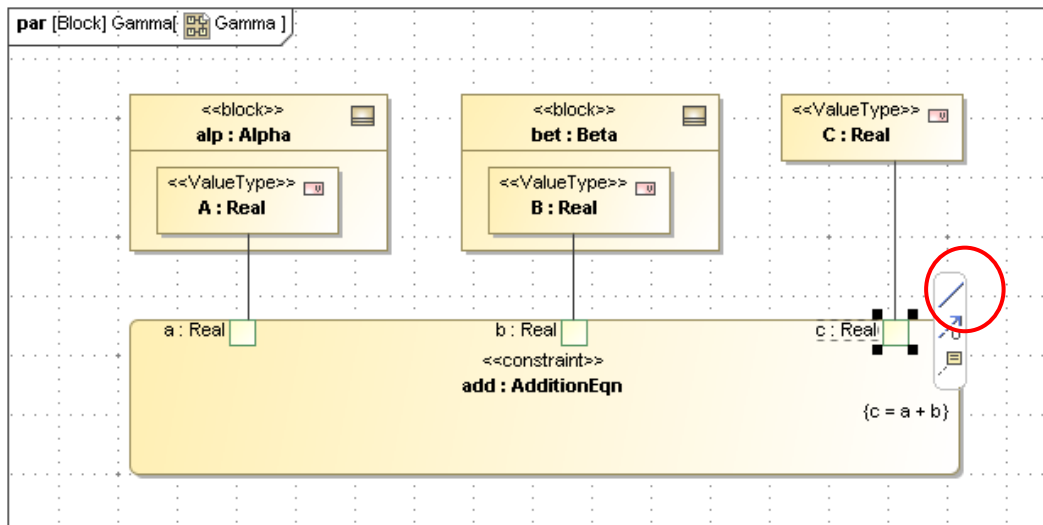
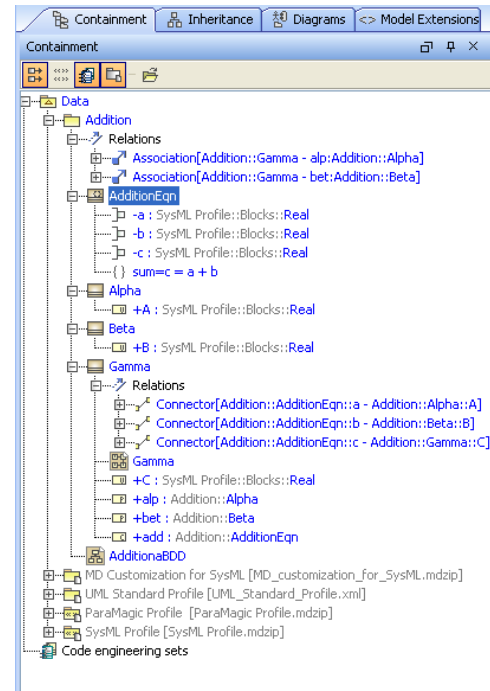

Figure 2.14 SysML Parametrics Diagram with connectors, connector icon highlighted
Figure 2.15 Containment Tree
- ii. From the floating toolbar that appears, choose the Connector icon (simple straight line, see highlight in Figure 2.14) and drag the end to **A** in the part property **alp:Alpha**. If the connection is yellow, then the parameter may be incorrectly linked to the outer rectangle, **alp:Alpha**, instead of the value property, **A:Real**.
- iv. At this stage, the parametric diagram should look like Figure 2.14 and the Containment tree should look like Figure 2.15.